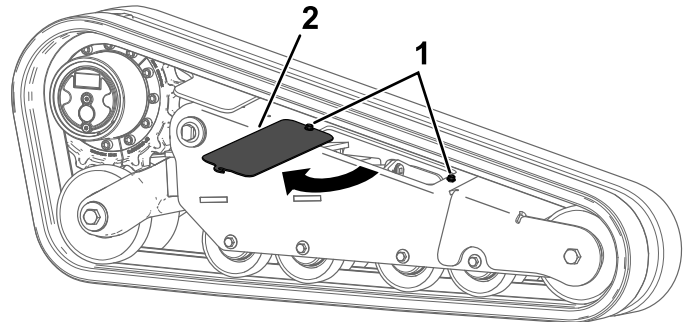

Figure 68
5. Loosen the 2 bolts and rotate the access cover open (Figure 68).
14. Close the access cover and tighten the bolts (Figure 68).